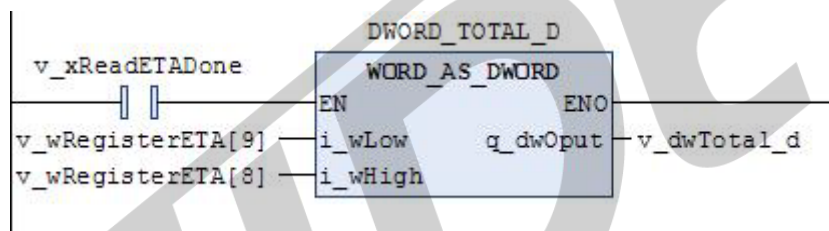

Figure F4-6
③Convert the read data into cumulative traffic, as shown in Figure F4-6, $v_dwTotal_D$ is the integer part of the positive cumulative value: